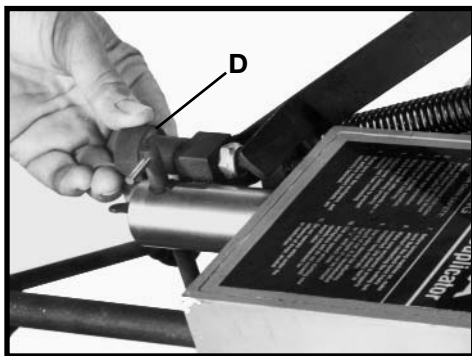

Fig. 69
3. Fine adjustments to the tool advancement arm can be made by rotating adjustment knob (D) Fig. 69, right or left as needed.